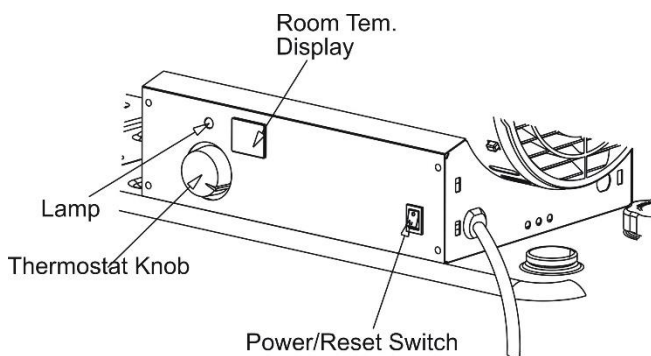

Figure 5. Control Panel
4. Turn thermostat control knob to desired temperature setting. The setting range is from 5°C to 45°C. Push the Power switch to the "ON" position (See figure 5). The power indicator lamp and room temperature display will light and the heater will start.